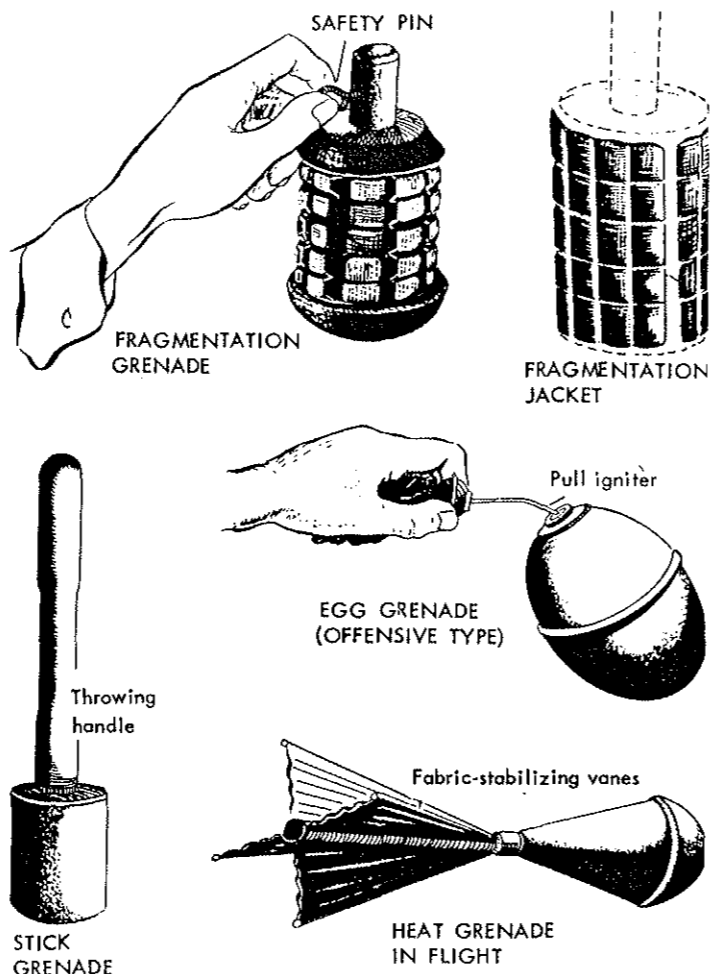

Figure 30.
- b. Has it any throwing aids, such as a handle or stabilizing vanes of metal or cloth (fig. 30)?